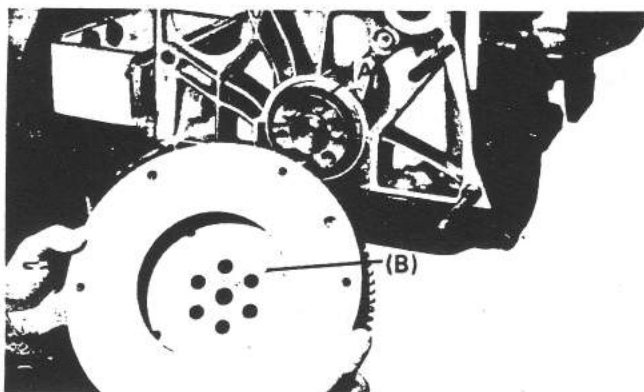

Fig. 149
One of the six lock bolts is a reamer bolt and fit it to the holes (A) and (B) as shown in Fig. 149.